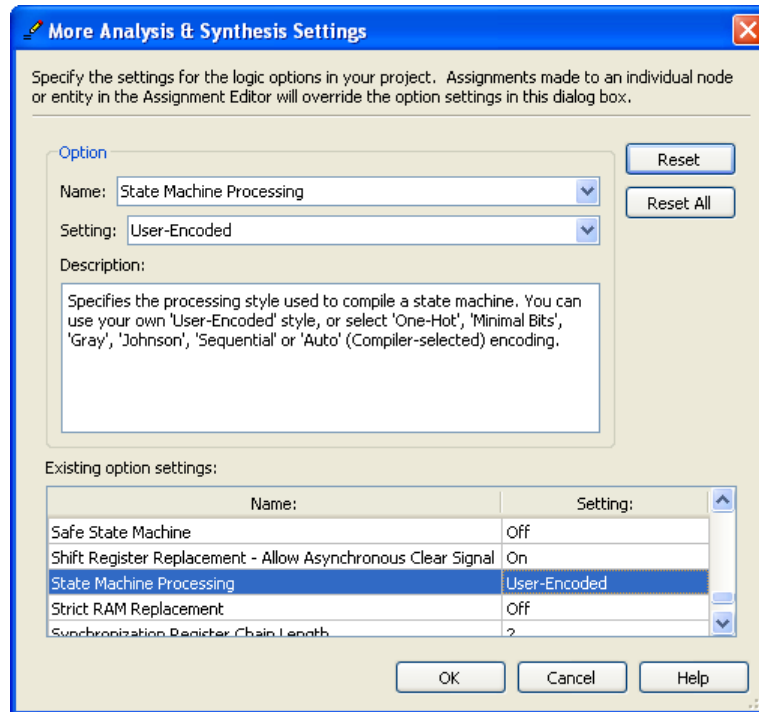

Figure 4: Specifying the state assignment method in Quartus II.
3. Before compiling your code it is necessary to explicitly tell the Synthesis tool in Quartus II that you wish to have the finite state machine implemented using the state assignment specified in your Verilog code. If you do not explicitly give this setting to Quartus II, the Synthesis tool will automatically use a state assignment of its own choosing, and it will ignore the state codes specified in your Verilog code. To make this setting, choose **Assignments > Settings** in Quartus II, and click on the **Analysis and Synthesis** item on the left side of the window, then click on the **More Setting** button. As indicated in Figure 4, change the parameter **State Machine Processing** to the setting **User-Encoded**.